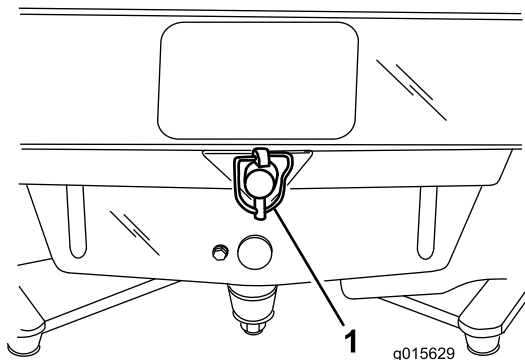

Figure 15
13. Secure the rear of the frame to the bracket pin with the disconnect pin (Figure 15).